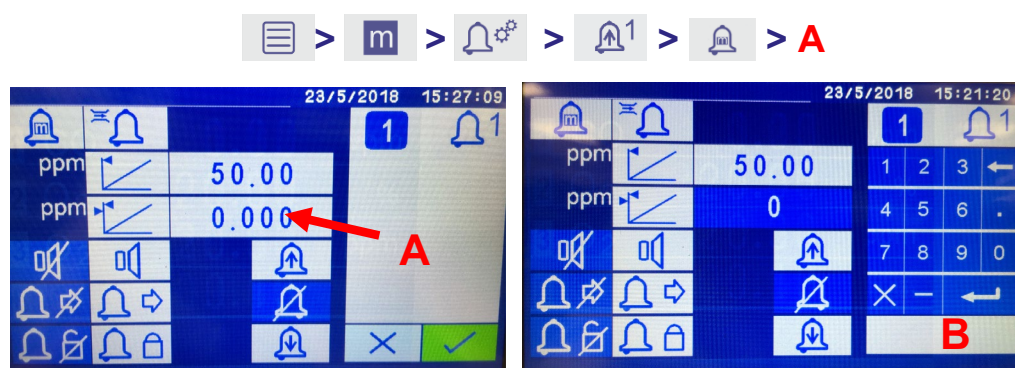

Figure 7-12: Alarm Hysteresis values set by pressing (A) and number key pad (B).
- Touch the number to the right of the  icon as shown in Figure 7-12 A.
- Use the number keypad shown in Figure 7-12 B to type in the threshold value.